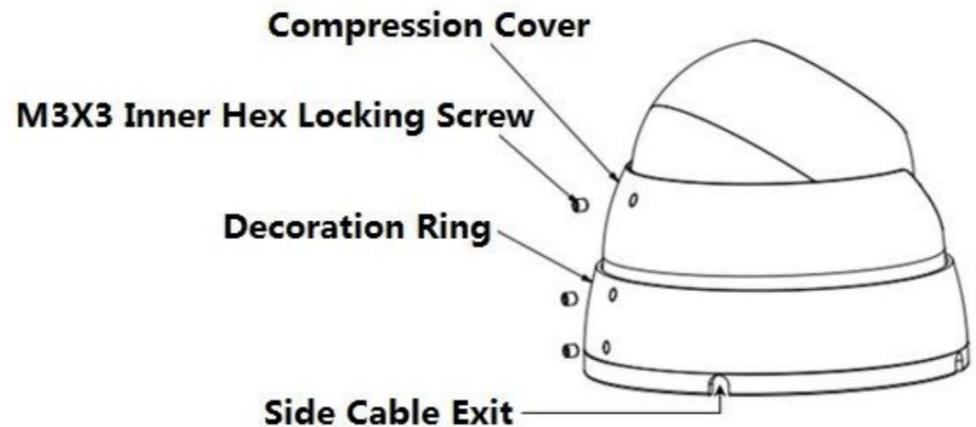

Figure 2-2
Step 3 Adjust the device installation pedestal to the proper position and line up the four screw holes in the device pedestal to the four plastic expansion bolt holes, and then put the four self-tapping screws into the four plastic expansion bolts and fix them firmly. Unscrew the decoration ring to adjust monitoring area, adjust the dome lens and aim the location. Fix it firmly after adjusting the location. You can use the three M3X3 inner hex screws to secure the dome body just in case the dome body gets loose during severe vibration. See Figure 2-2.